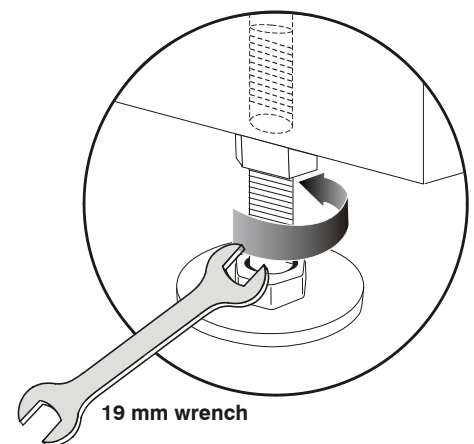

Figure 5-20 Replace Feet
1. Using a 19mm wrench, loosen the foot lock nut. (**Figure 5-20**)